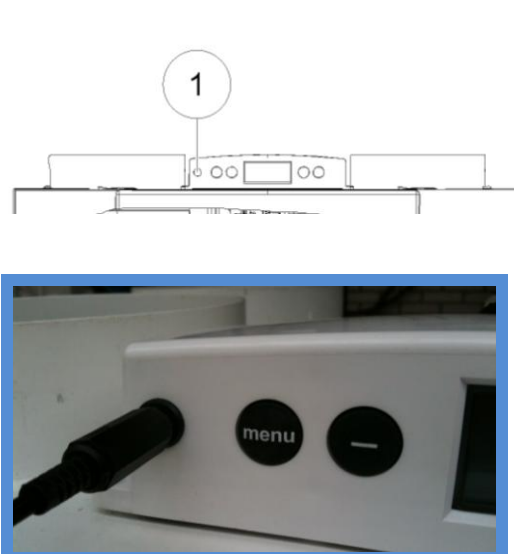

Figure 2: Service connection Renovent Excellent
6. Then connect the other end of the service cable to the device (figure 2 and 3)